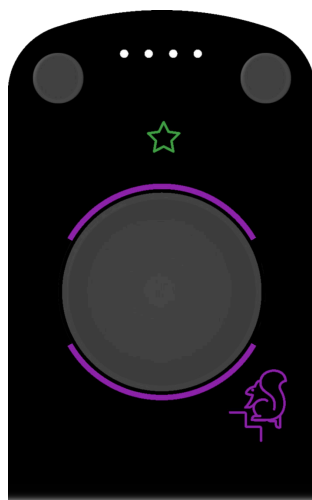

Figure 53. The green information indicator shows that the end of the stairs has been detected and the support system has been extended
At the latest when the center of the wheel axle has reached the edge of the top step (Figure 52, "When the edge of the top step aligns with the middle of the wheel axle, as seen from above, the transition to the upper level has to be triggered manually at the latest!" [71]), the support system should be extended and the information indicator should light up in green (Figure 53, "The green information indicator shows that the end of the stairs has been detected and the support system has been extended" [72]). If this is not the case, you will have to trigger the transition manually. See the section [Triggering end of stairs manually \[67\]](#).
6. **When you have reached the end of the stairs, you need to monitor if the sensors have detected it correctly. As soon as the wheelchair has extended the support system, the information indicator will light up in green (see Figure 53, "The green information indicator shows that the end of the stairs has been detected and the support system has been extended" [72]). At the latest, when the edge of the top step is in the middle of the wheel axle, (Figure 52, "When the edge of the top step aligns with the middle of the wheel axle, as seen from above, the transition to the upper level has to be triggered manually at the latest!" [71]) you must trigger the transition manually.**